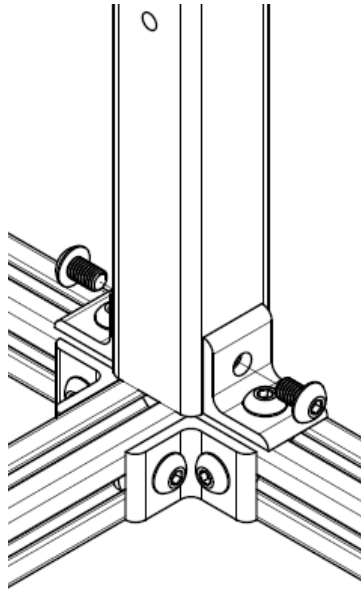

Fig 3.12: Insert the Square Tube and screw it by using two M5 screws
- ❖ Use two M5 screws (#PSRY), to connect the two L corner brackets (#HLCP) to the square tube (#WUPP) as shown in Fig 3.12, placing it as close to the center of the beam as possible (#GRFR).